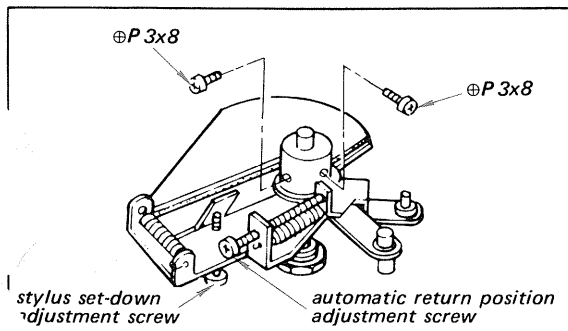

Fig. 2-12. Tone-arm lever and tone-arm ass'y removal
8. Remove the tone-arm lever assembly by loosening the two set screws (\oplus P 3x8) securing it to the tone-arm shaft as shown in Fig. 2-12.